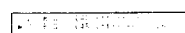

Fig. 25.
- 6 After fine tuning, press OK. The cursor appears beside the next programme position (at the left margin). (See Fig. 25.) Now the fine-tuned level is stored.